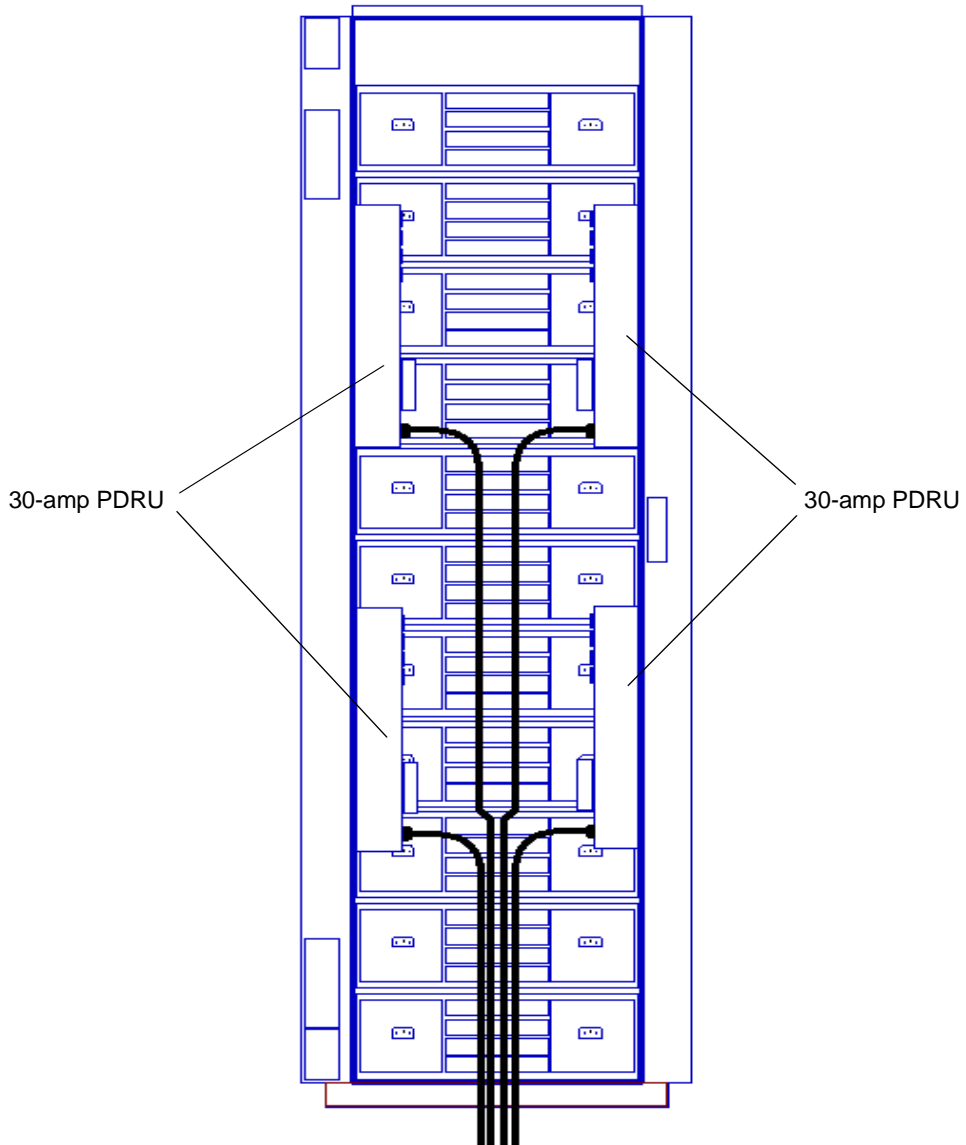

Figure 11 PDRU Placement in 2.0 Meter Rack
- Thirty-amp PDRUs must be installed directly behind the disk system to achieve the highest densities in 2-meter racks. (See Figure 11 on page 41.) Hinged brackets allow Hewlett-Packard's 30-amp PDRUs (HP E7681A and E7682A) to swing aside for servicing hidden disk systems.